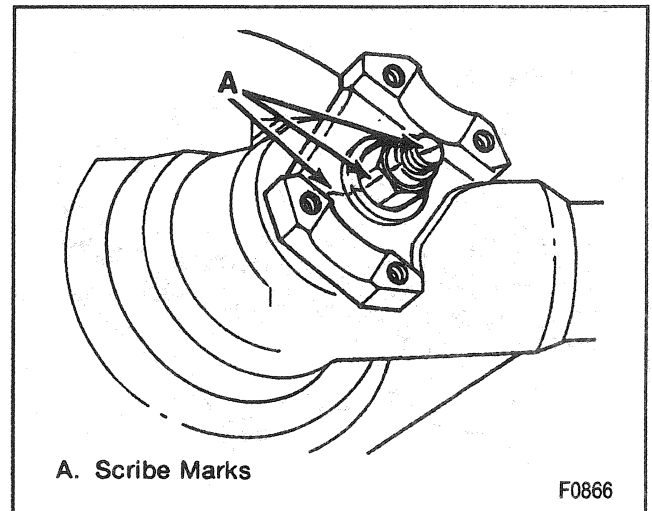

Figure 16—Scribed Marks
- D. Make an accurate alignment mark on the pinion stem, pinion flange, and pinion flange nut. Also record the number of exposed threads on the pinion stem for reference (Figure 16).